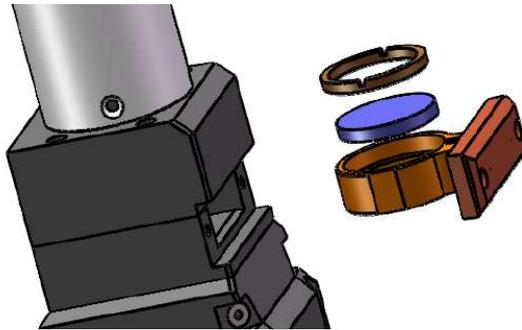

Figure 11. Protective windows of collimate lens.
(1) Loose the two screws showed in figure 11, and carefully take out of the lens with cover slide drawer;
(2) Take out of the **screw ring** (figure 11) by tools properly and take out of the lens using your fingers after putting on fingerstall;
(3) Cleaning the lens, cover slide drawer and screw ring;
(4) Put the cleaned lens back into the cover slide drawer; (No difference in pros and cons)
(5) Put **screw ring** back into the cover slide drawer;
(6) Put the protective windows unit back into the cutting head and then tighten the two screws.